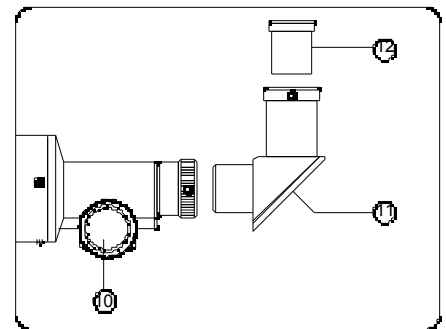

fig 2.
- Locate an *Eyepiece (12)* (either the 5mm or 20mm) and *Diagonal Mirror (11)*. Attach the *Diagonal Mirror* as shown (fig. 2). Insert an *Eyepiece* into the *Diagonal Mirror*.